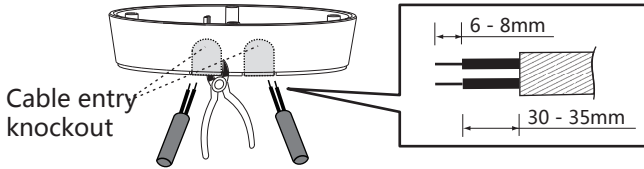

FIG.16
- To feed AC power cables through the side of junction box, please use the cutting pliers to break the cable entry knockouts on the side of junction box, then insert cables into junction box and feed through it. Strip off 6 - 8mm of cable sheathing for wiring (See FIG.16).